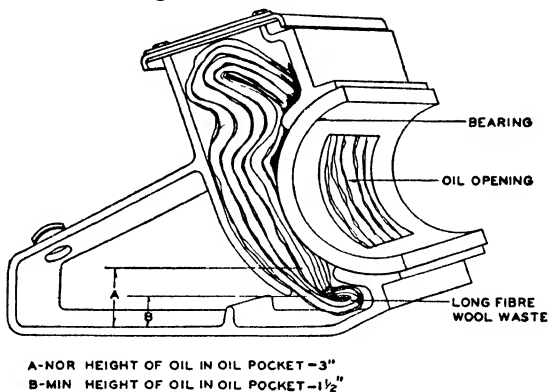

Fig. 12. Shows a Section through an Axle Bearing
**AXLE BEARINGS.** The axle bearings of the traction motors are arranged for oil and waste lubrication. Fig. 12 shows a section through an axle bearing.